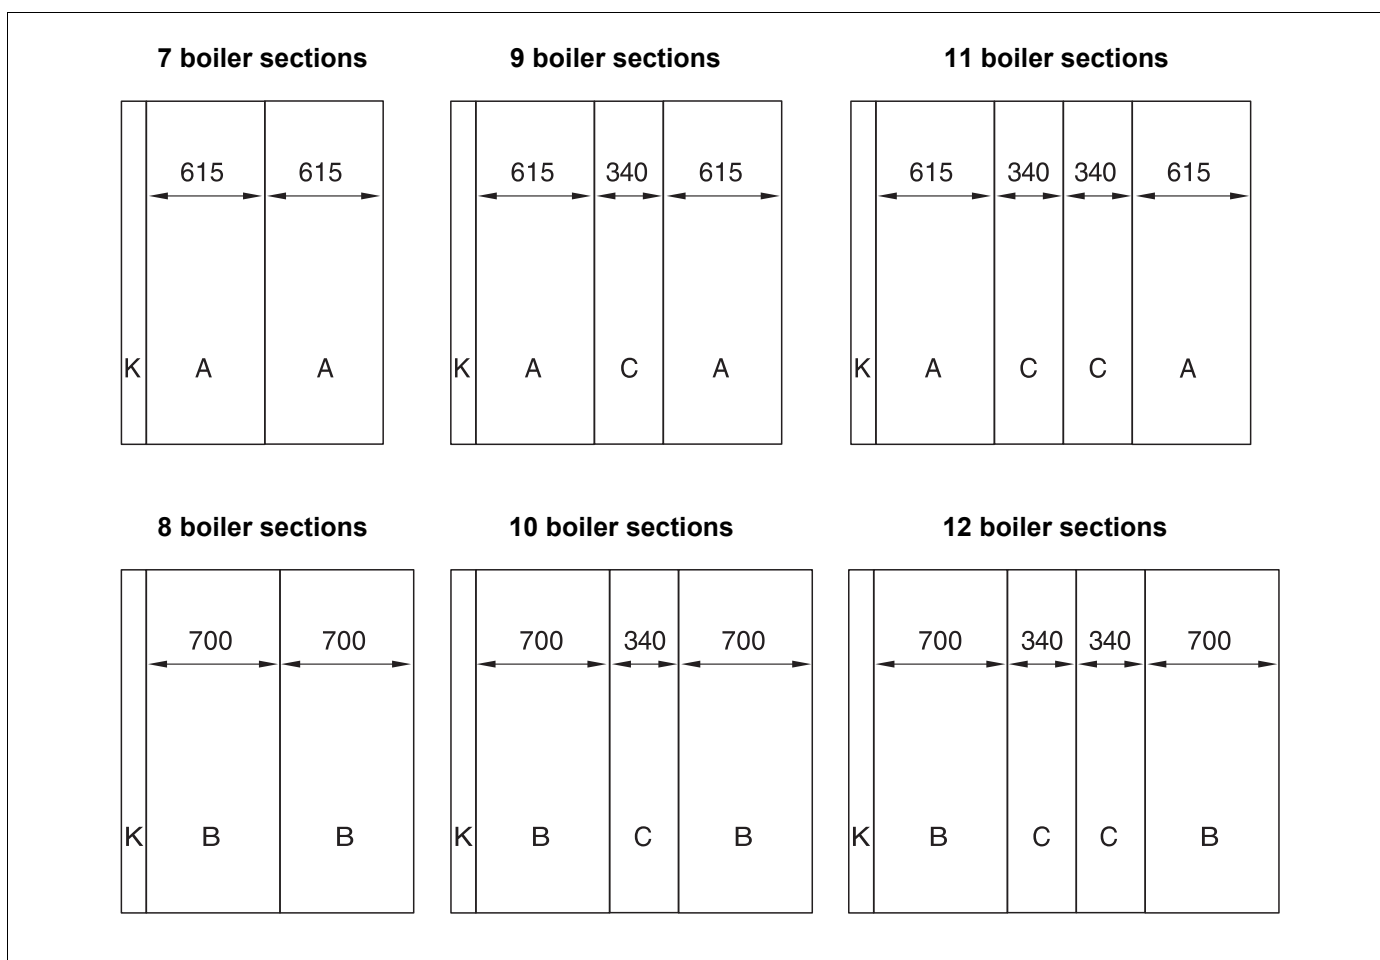

Fig. 48 Arrangement of the side panel components for various boiler sizes (dimensions in mm)
- Fit all side panels in accordance with the general arrangement drawing (Fig. 48).